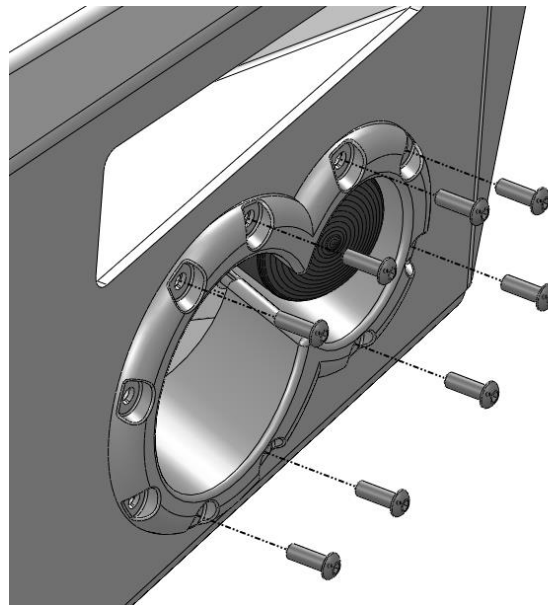

Figure 10a
- C. Connect supplied wiring to tap connectors and run turn signal wiring out of the bottom. (Ref. Figure 10a) **DO NOT CONNECT WIRING TO BUMPER UNTIL FULLY INSTALLED.**